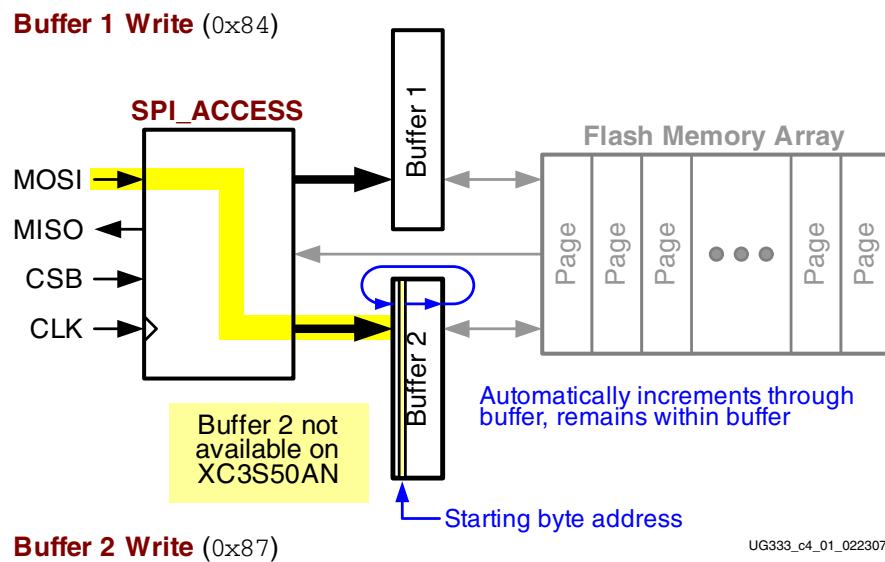

Figure 4-1: Buffer Write Command
- The starting byte location can be anywhere within the selected SRAM page buffer, as shown in Figure 4-1.
- While CSB is Low, present new data on the MOSI pin on every subsequent falling CLK edge. The ISF memory automatically increments the implied address counter through the SRAM page buffer, as highlighted in Figure 4-1.
This operation combines the Buffer Write (Figure 4-1) and Buffer to Page Program with Built-in Erase (Figure 4-2) operations. The FPGA application must specify a full 24-bit address, including both the Page Address and the starting Byte Address within the SRAM page buffer.
- ◆ The starting byte location can be anywhere within the selected SRAM page buffer, as shown in Figure 4-1.
- ◆ While CSB is Low, present new data on the MOSI pin on every subsequent falling CLK edge. The ISF memory automatically increments the implied address counter through the SRAM page buffer, as highlighted in Figure 4-1.